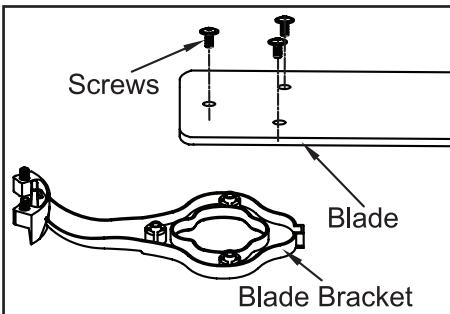

Figure 13
1. Attach blade to bracket using the screws as shown in figure 13. Start a screw into the bracket. Repeat for the two remaining screws.